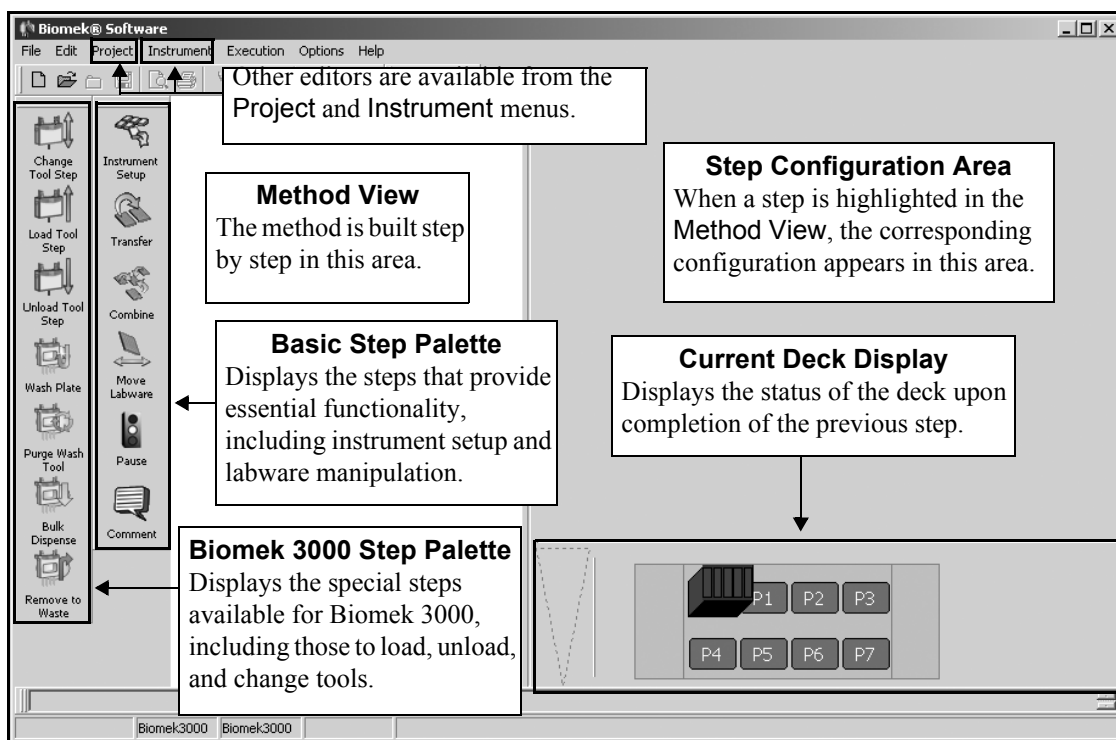

Figure 1-2. Biomek Software main editor
The main editor that appears when the software is launched (Figure 1-2) is used to build and configure methods:
1. Locate the power switch on the right side of the instrument (Figure 1-2).
2. If Accounts & Permissions is enabled (see sidebar), a dialogue box appears requesting you to log in using the user name and password assigned to you by your system administrator. Enter the required information. Your account must have **Develop Methods**, **Develop Projects**, and **Setup Instrument** permissions to complete all parts of this quick-start guide. The Biomek Software main editor appears (Figure 1-2).